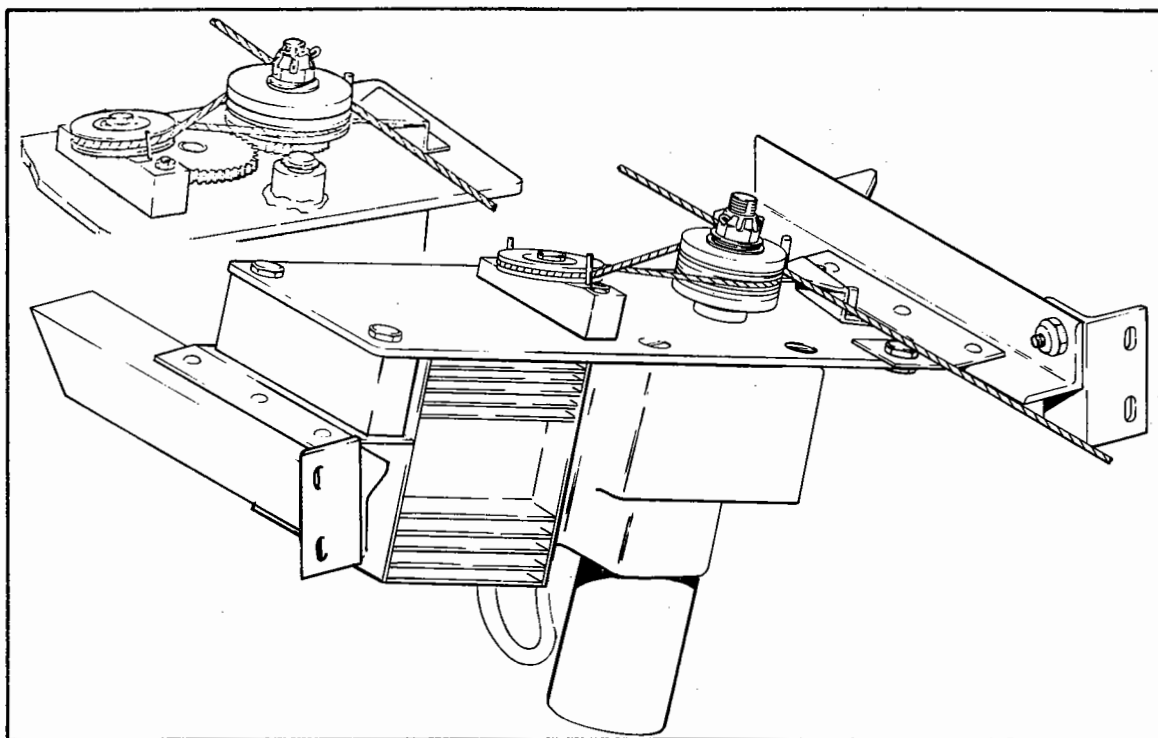

Figure 9-5. PA-31 Trim Servo Cable Routing
**9-15. INSTALLATION OF TRIM SERVO. (PA-31 and PA-31-350.)** (Refer to Figures 9-5 and 9-6.)
9-17. INSTALLATION OF TRIM AMPLIFIER ON 1C463-1 TRIM SERVO. (PA-31 and PA-31-350.) (Refer to Figures 9-5 and 9-6.)